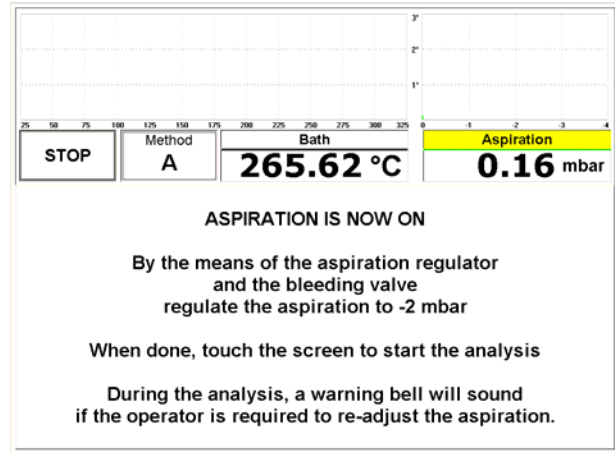

Figure 11: Aspiration Activation Screen
- The aspiration / vacuum will now be activated. See Figure 11 above. Regulate the aspiration / vacuum to -2 mbar by slowly closing the bleed valve halfway and regulating the vacuum regulator on the analyzer's side in order to reach 20 ± 0.2 mm on the inclined manometer (-2mbar on screen).